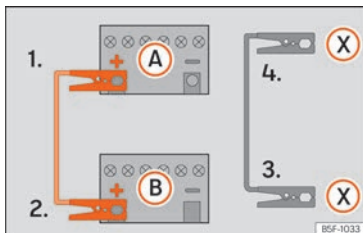

Fig. 46 Diagram of connections for vehicles with Start Stop system
- 4b. *In vehicles with a Start-stop system:* connect one end of the *black* jump lead (X) to a suitable ground terminal, to a solid piece of metal in the engine block, or to the engine block itself » » » Fig. 46.
5. Connect the other end of the *black* jump lead (X) to a solid metal component bolted to the engine block or to the engine block itself of the vehicle with the flat battery. Do not connect it to a point near the battery (A).